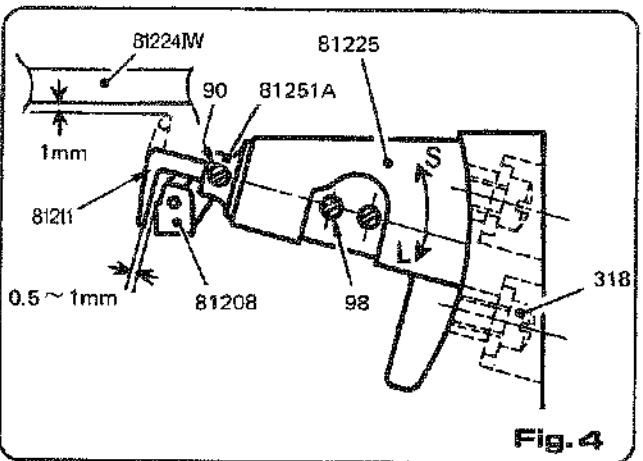

Fig. 4
- If the clearance does not fall within the specified range, loosen the set screw (318) of the spreader bearing (81255), as shown in (Figure 4), and move up the spreader bearing (in the direction S) to make the clearance smaller or move it down (in the direction L) to make the clearance larger. Firmly tighten the set screw of the spreader bearing after the adjustment.
間隔の調整は次の通りです。(Fig. 4)
The thread retainer (81211) has to catch the lower thread before the looper (81208) enters the needle thread loop. It is to be adjusted so that the clearance between the thread retainer and the looper is 0.5 to 1mm when the retainer begins its upward movement and the looper is at its farthest right position. For this adjustment, loosen the set screw (90) of the retainer and move the retainer as necessary (Figure 4 refers). Loosen the set screw (98) of the spreader rocker (81213AW) and turn the spreader rocker shaft (81251A) as necessary, so that the clearance between the point of the retainer and the throat plate (81241AW) is 1mm at the time when the retainer is facing upwards to its full extent.
4-4 糸捌きの調整 (Fig. 4)